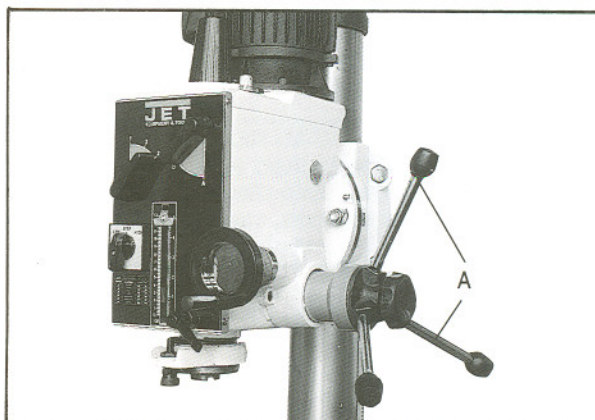

Fig. 2
4. For the GHD-20/20T, install three handle and knobs (A, Fig. 2) into the downfeed hub. For the GHD-20PF/20PFT, screw two knobs onto the handles of the power downfeed assembly.